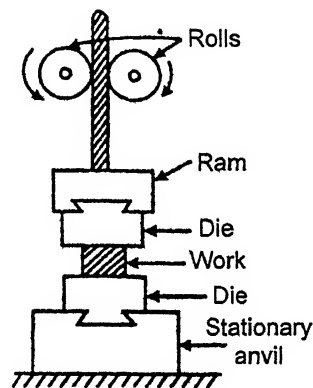

Fig. 9.13. Drop stamp of board type.
- The *drop stamp of board type* (Fig. 9.13) is a widely employed when shaping hot bars and finally to bring the work to size and shape between a set of drop stamping dies. In board hammer the tup is attached to a board which passes between two rollers. The latter run in an overhead attachment, are belt-driven and run in opposite directions. The tup is lifted by means of eccentric (foot, or hand operated or self acting) and they (eccentrics) cause the rollers to grip or release the board, when the board is gripped by the rollers their direction of rotation is such as to lift it (board) and the attached tup, when the board is released the tup falls with it. The height of lift depends upon the timing of release, which is instantaneous.